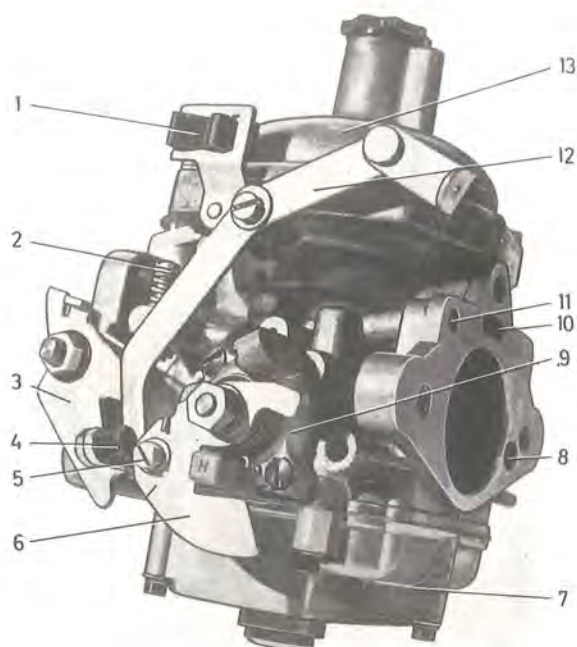
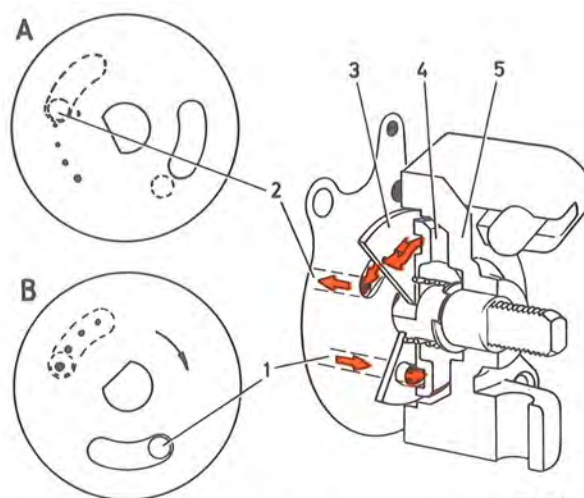

Fig. 2-52. Carburettor, rear, from the left
Fig. 2-54. Cold start device
To facilitate starting during cold weather, the rear carburettor is fitted with a cold start device (Figs. 2-52 2-54 and 2-55).
The cold start device consists of a valve disc (3, Fig. 2-54) which is provided with four calibrated holes and an elongated opening as well as a disc (4) mounted on a spindle which is operated by the choke control. On the same spindle, outside the cover (5), there is a cam disc (6, Fig. 2-52) with connection for the choke control pull wire. When the cold start device is engaged, the valve disc turns and this links up the channel (1, Fig. 2-54) from the floatchamber via one or several of the calibrated holes to the channel behind the valve disc and then the opening to the channel (2), which terminates in the venturi between the vacuum plunger and choke flap. Through this link-up, the engine receives extra fuel (a richer mixture), to facilitate cold starting. At the same time, less air is supplied by means of the choke device. When the choke control is pushed in, the valve disc
turns and closes the inlet to the channel. At the same time as the cam disc is operated, the throttle flap opening is also influenced in such a way that turning the cam disc opens the throttle through the fast idle stop screw (4, Fig. 2-52) and the lever, before any of the calibrated holes open the connection to the fuel drilling. With this arrangement, the idling speed can if necessary be raised by the driver of the vehicle during the warming-up period of the engine.